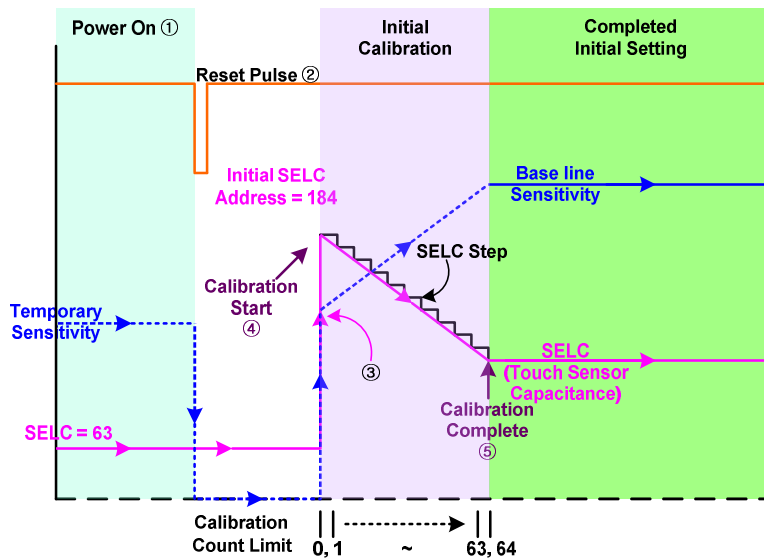

Figure 11: Initial Calibration.
(1) Initial Calibration:
- Once power is supplied to the LDS61xx and the Soft Reset command is provided after device initialization, initial calibration starts to search for the baseline SELC value for each sensor. SELC is an indication of the capacitance of each sensor and enables a stable baseline (no-touch) level to be maintained. The details of this process are summarized in Figure 11 and the associated detailed steps below.